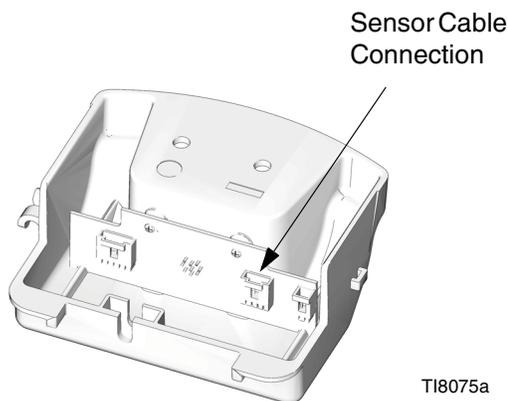

FIG. 15. Sensor Cable Connection
6. Remove the screws (43 and 41). Remove the air valve (40) by grasping the top and bottom and rotating the valve out from the right side, to pull the exhaust housing (E) out of the muffler (15). Replace the gaskets (46).
8. Lubricate the gaskets (46) and ensure they align with the holes at the back of the air valve (40). Install the air valve. Install the screws (41) and torque to 20 ft-lb (27.1 N•m). Thread the screws (43) in by hand, then fully tighten them against the muffler (15).
- a. **DataTrak Models:** Carefully slide the housing (132) onto the air valve. Thread the screws (134) in by hand, then torque to 100 in-lb (11.3 N•m). Reattach the solenoid and sensor cables to the DataTrak module (131), see page 14. Carefully slide the module back into the housing (132). Reinstall the two screws (135).
- b. **Linear Sensor Models:** Reconnect the sensor cable to the circuit board. See FIG. 15, page 27. Carefully slide the housing (132) onto the air valve. Thread the screws (134) in by hand, then torque to 100 in-lb (11.3 N•m).
- a. **DataTrak Models:** Remove the two screws (135). Carefully remove the DataTrak module (131), see page 14. Disconnect the runaway solenoid and sensor cables from the module board. Remove the two screws (134) and carefully slide the housing (132) off the air valve.
- b. **Linear Sensor Models:** Remove the screws (134) and carefully slide the housing (132) off the air valve. Disconnect the sensor cable from the circuit board. See FIG. 15 on page 27.
10. Reinstall the muffler (15). Fully tighten the screws (43) against the muffler.
11. Reinstall the outer valve cover (47).
13. Reinstall the top cover (30).
5. Remove the screws (134) and carefully slide the housing (132) off the air valve. Disconnect the sensor cable from the circuit board. See FIG. 15.
6. Thread the cable back through the hole (H) in the side of the adapter (33) and extend it out the top of the adapter.
7. Unscrew the adapter (33) and sensor (35). Lift the sensor straight up out of the air motor.
8. Apply thread adhesive to the new sensor housing. Screw the sensor (35) into the top cap (1). Torque to 30-36 ft-lb (40.6-48.8 N•m).
9. Apply thread adhesive to the adapter (33). Extend the sensor cable straight up out the top of the adapter, then screw the adapter into the top cap (1). Torque to 30-36 ft-lb (40.6-48.8 N•m).
10. Thread the sensor cable through the hole (H) in the side of the adapter, and reconnect it to the circuit board. See FIG. 15, page 27. Carefully slide the housing (132) onto the air valve. Thread the screws (134) in by hand, then torque to 100 in-lb (11.3 N•m).
11. Apply thread adhesive to the lift ring (21). Hold the adapter (33) with a wrench to keep it from turning, and torque the lift ring to 30-36 ft-lb (40.6-48.8 N•m).
12. Reinstall the top cover (30).